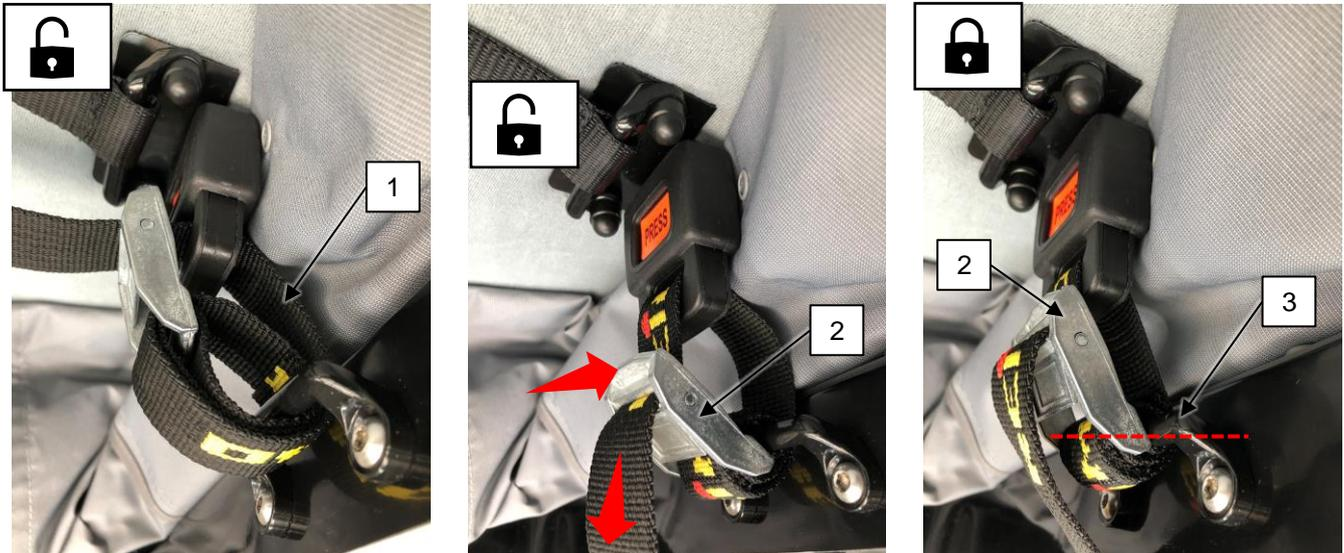

Abb. 5-1: Webbing guide
- Attach the webbing (s. Abb. 5-1,1) as shown in Abb. 5-1 and pull tight, pressing against the buckle (2):
- **The buckle (2) must rest on the bracket (3)!**
- **There must be no loop between the buckle (2) and the bracket (3).**